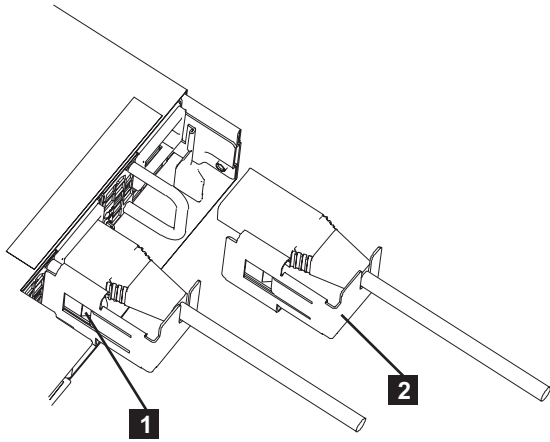

Figure 28. SAN Volume Controller 2145-CF8 cable-retention brackets
The SAN Volume Controller 2145-CF8 uses two toolless cable-retention brackets, one to retain each cable from the uninterruptible power-supply to one of the two SAN Volume Controller 2145-CF8 power supplies, as shown in Figure 28 on page 35.
4. Align the cable-retention bracket on the power cord so that the bracket is to the left of the cord, as shown by **2** in Figure 28.